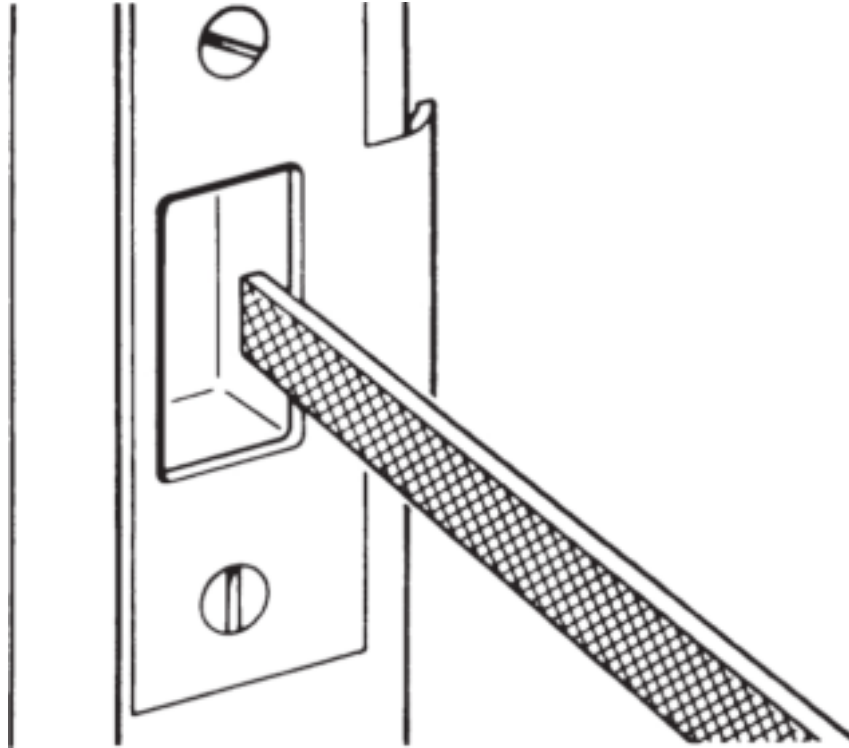

**Figure 13.6** File to correct bolt-strike misalignment.
- When a key operates the latchbolt or deadbolt with difficulty, it is usually due to bolt-strike misalignment (Fig. 13.6 ).